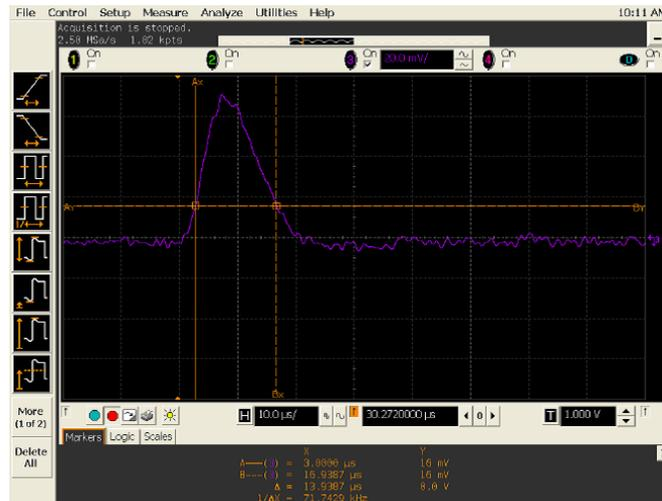

Figure 1-6 Graph of load transient response
- 7** Adjust the oscilloscope to display transients as shown in **Figure 1-6**. Note that the pulse width ($t_2 - t_1$) of the transients at 15 mV from the base line is no more than 50 μ s for the output.